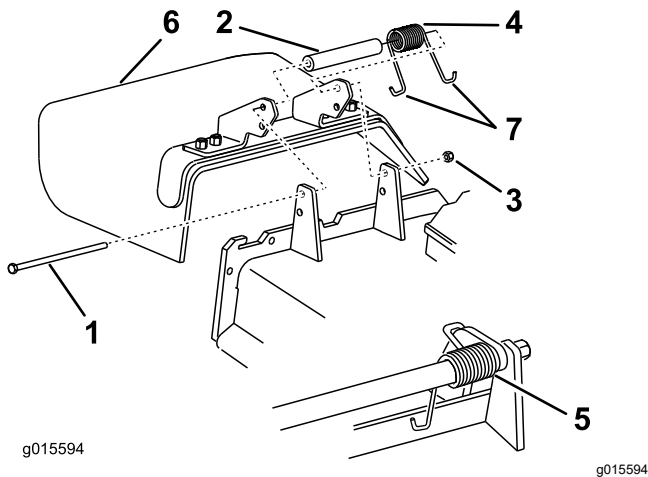

Figure 104
1. Remove the locknut, bolt, spring, and spacer holding the deflector to the pivot brackets (Figure 104).
2. Remove the damaged or worn grass deflector (Figure 104).
**Note:** Make sure that 1 J-hook end of the spring is installed behind the deck edge before installing the bolt as shown in Figure 104.
6. Place 1 J-hook end of the spring around the grass deflector (Figure 104).